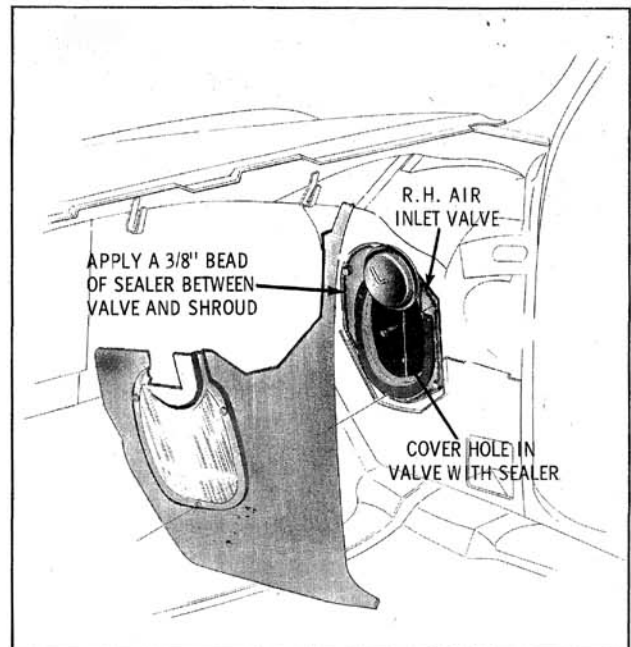

Fig. 14-7 Air Valve Installation
**COWL VENT DOOR ASSEMBLY****REMOVE AND INSTALL (Fig. 14-7)**
3. Remove the air inlet valve assembly to cowl attaching screws and remove assembly. (Fig. 14-7)